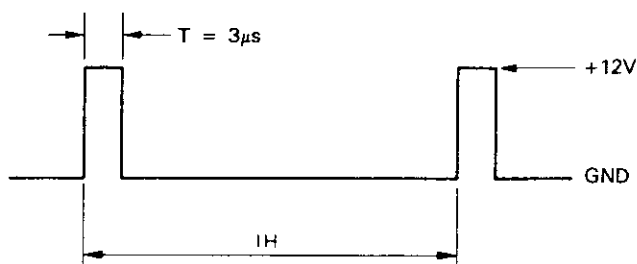

Fig. 72
- ① Connect the oscilloscope probe to TP40.
- ② Adjust the pulse width T of the 0V clamp pulse so that it becomes $3\mu\text{s}$ using VR117 (Fig. 72).